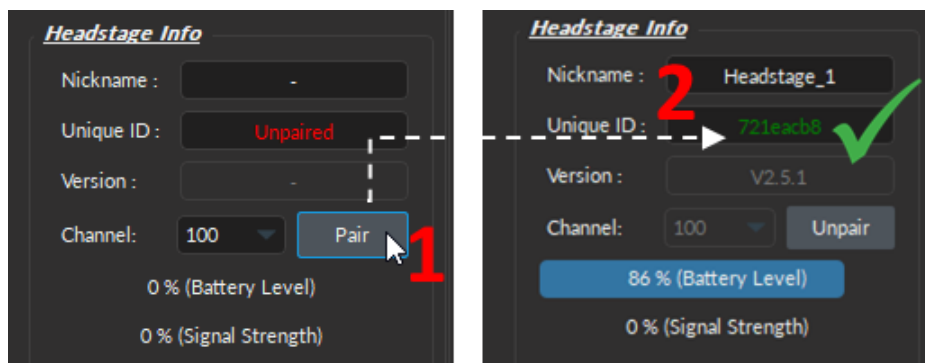

Figure 9.54: Pairing Headstage
To pair the headstage (Fig. 9.54), (1) click **Pair** and (2) unique ID in green will appear if correctly paired.